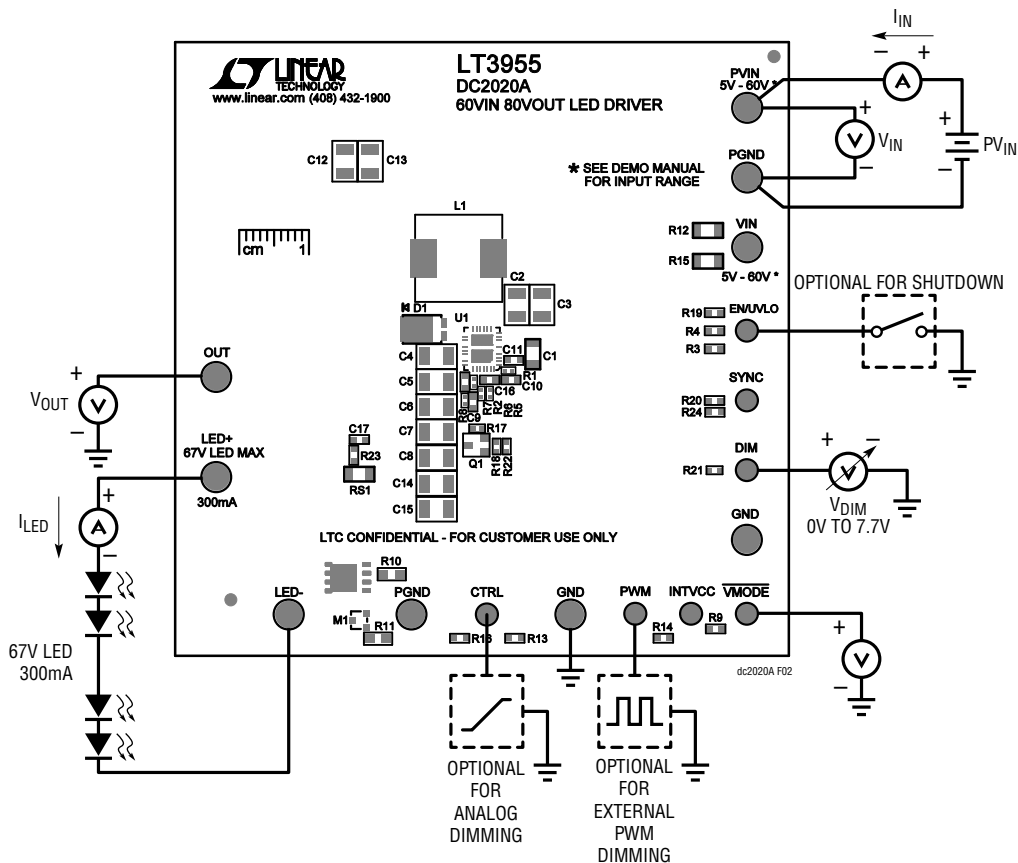

Figure 1. Test Procedure Setup Drawing for DC2020A
1. Connect a string of LEDs that will run with forward voltage less than or equal to 67V, but greater than the intended  $PV_{IN}$ , to the  $LED^+$  and  $LED^-$  terminals on the PCB as shown in Figure 1.